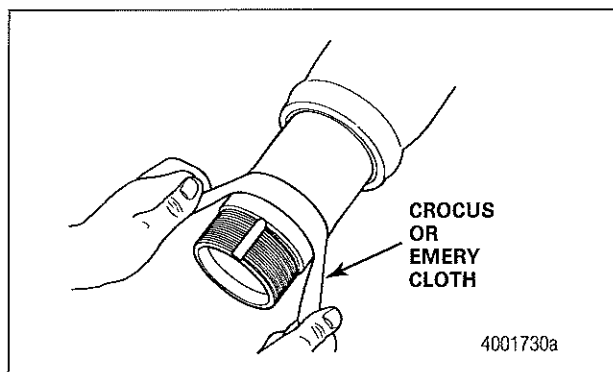

Figure 15
2. Check the axle spindle and seal journal for scratches, nicks or wear marks. Repair them with a crocus or emery cloth or electric power tool and wire brush wheel. Do not use pneumatic or electric power tools with a sanding pad. Using a pneumatic or electric power tool and sanding pad can remove too much material and create flat spots. Figure 15.